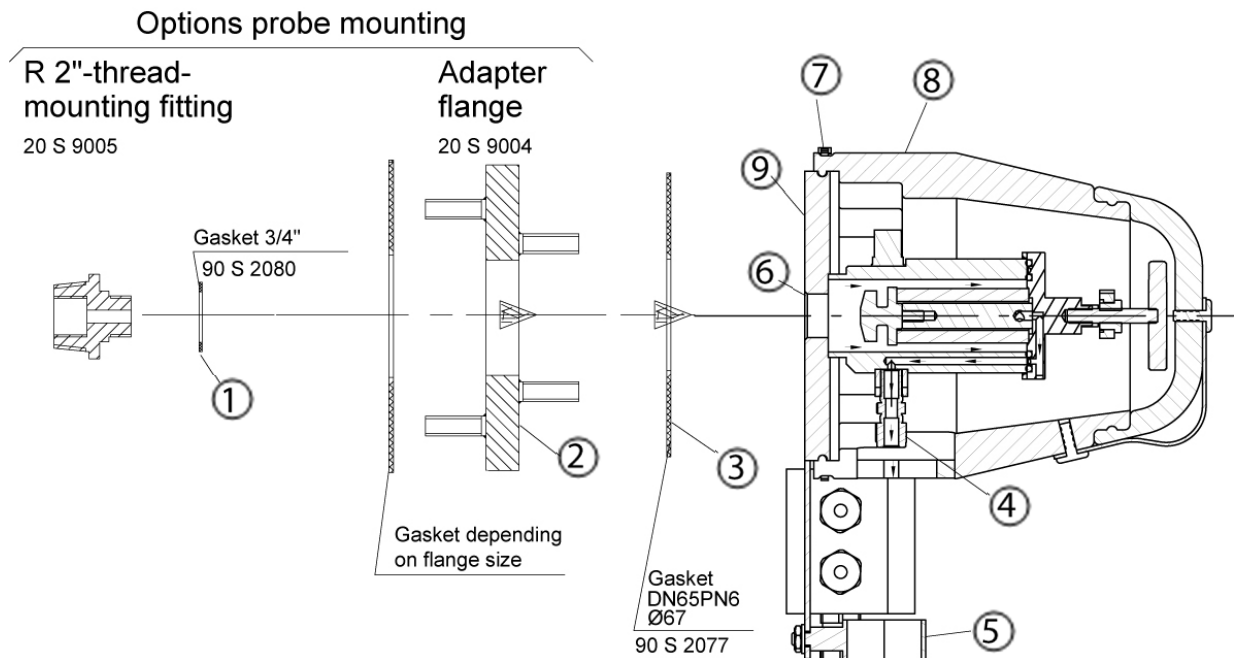

Figure 2 Mounting of the SP180-H-EX1 T*
The M&C SP180-H-EX1 T* probe is designed for stationary use. The professional choice of the right sample probe for the application and the professional installation guarantees a long service life and minimum maintenance work. The ideal position for mounting the sample probe is horizontally with a tilt angle of 10° towards the process. Please follow these installation steps and see details in Figure 2.
- Screw the sample probe tube directly into the ¾" inner thread ⑥ of the probe flange and tighten it.
- To mount the SP180-H-EX1 T* at the sampling flange, please loosen the metal clamp ⑦ around the heat insulating protection cover and remove the cover ⑧.
- If the probe connection is not the same size as the standard flange connection DN65 PN6, an adapter flange ② (optional) should be mounted to the probe (see Figure 2). Place the gasket ③ between the adapter flange and the probe flange.
- If the heated probe tube type SP30/35 is used then the probe is to be screwed to its flange (with welded threaded bolt). First insert the flange seal ③ between the two flanges.
- Attach the flange seal ③ to the probe connection.
- After mounting of the probe at the sampling flange put the heat insulating protection cover ⑧ over the probe flange again and secure it with the metal clamp ⑦.